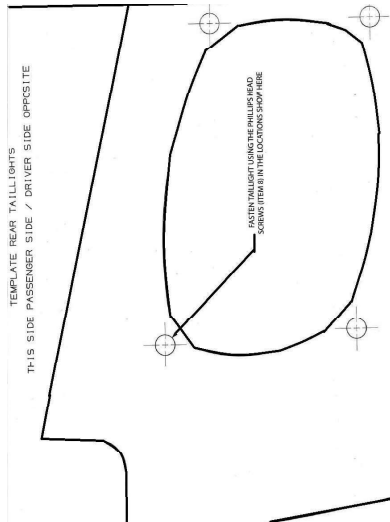

Figure 9
1. Carefully trim the template (4) along contour edges. See figure 9.